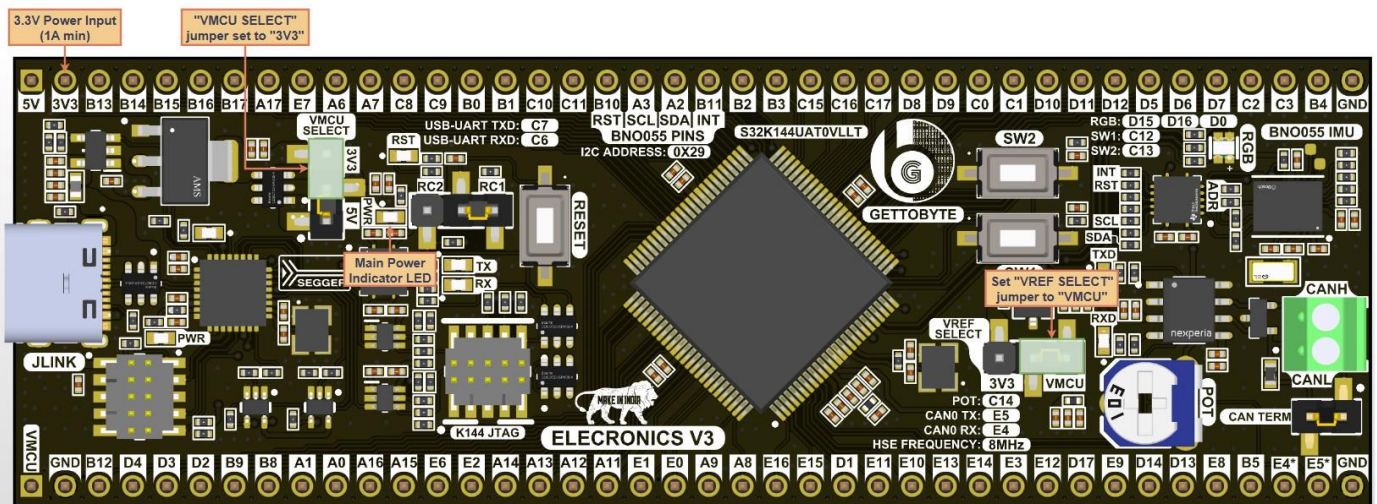

**Fig 4 : Powering through 5V Power Pin**
- The “PWR” LED is mentioned in Fig 4. indicates that power is being received by the Electronics V3.